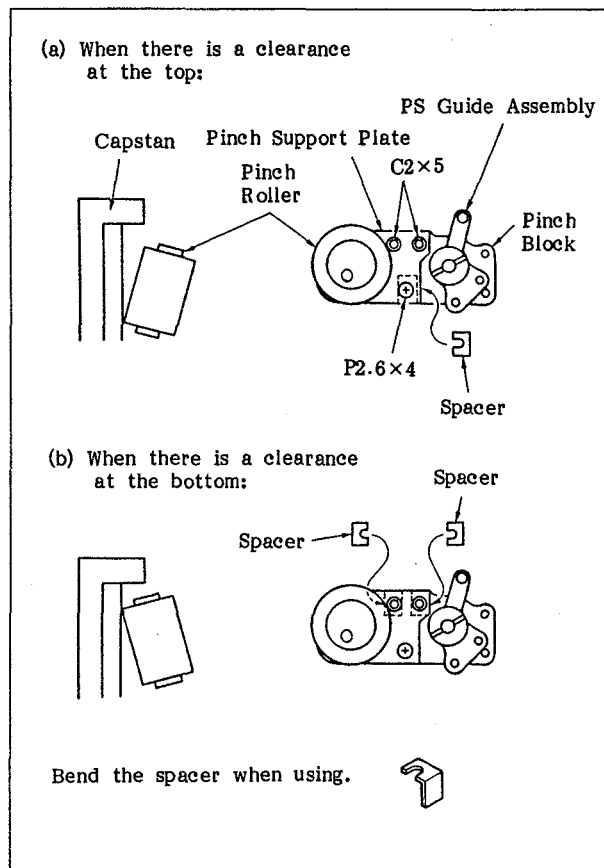

Fig. 6-92 Adjustment of the Tilting of the Pinch Roller
- Loosen the three set screws that hold the pinch support plate, shown in Figure 6-92. Insert spacer(s) of the appropriate thickness, shown in the following table, between the pinch support plate and the pinch block. Then tighten the three set screws.